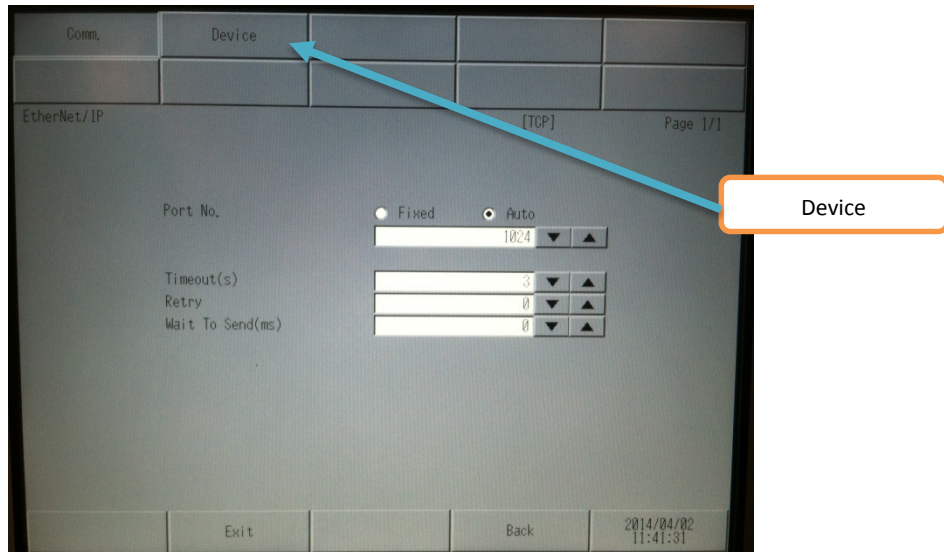

Figure 9: Select [Device]
10. On the first page that appears select [Device] as illustrated in Figure 9.